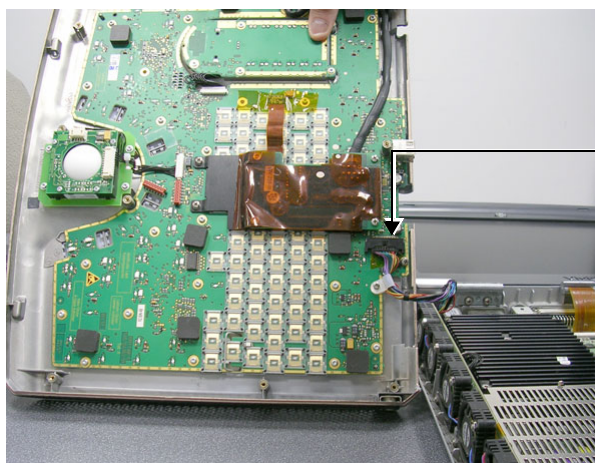

Figure 8-24 Disconnecting the Control Panel/Keyboard Cable
- 6) Lift the Control Panel and Keyboard up to gain access to the cable connector underneath and disconnect the control panel/keyboard cable from the system as shown in Figure 8-24.
- 1) Stand the replacement Control Panel and Keyboard beside the Vivid-i™/ Vivid-q™ system and tilt it on its side to gain access to the cable connector underneath. Re-connect the keyboard/control panel cable from the system to the cable connector (refer to Figure 8-24, above).
- 1) Lift the Control Panel and Keyboard up to gain access to the cable connector underneath and disconnect the keyboard/control panel cable from the system - refer to Figure 8-24 on page 8-17.